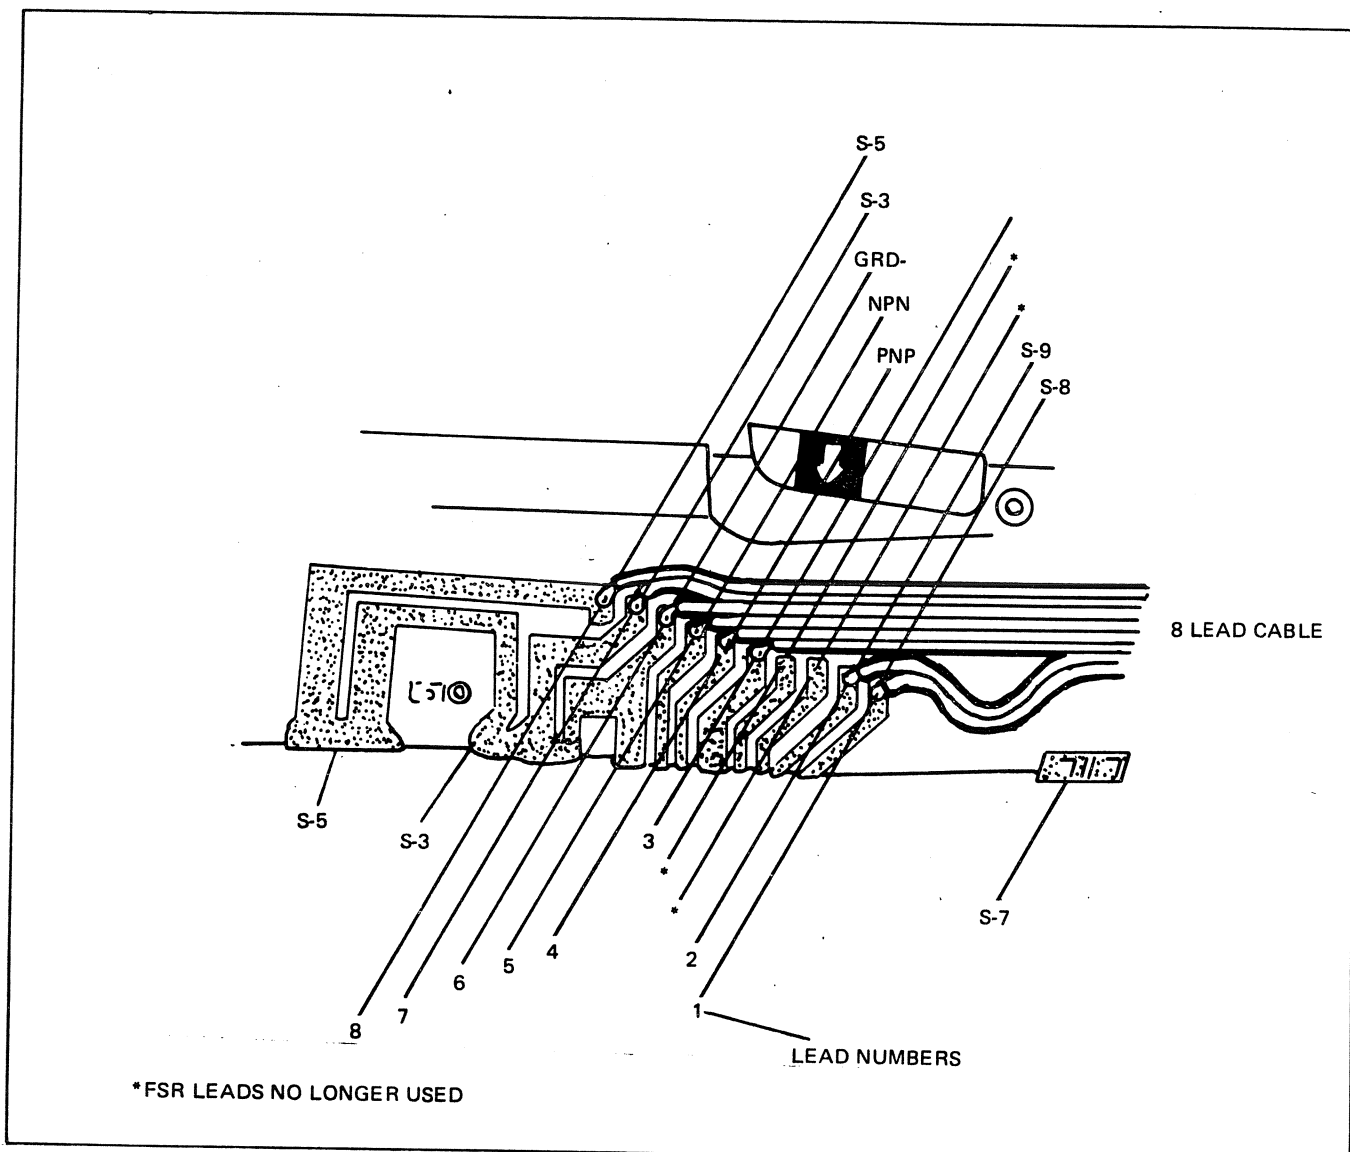

FIGURE 4-77 CONNECTING 8 WIRE SHUTTER CABLE TO 10 PAD FLEX CIRCUIT
5. Arrange the 3rd, 4th, 5th and 6th cable leads on the 5th, 6th, 7th and 8th solder pads of the flex circuit (See Figure 4-77).